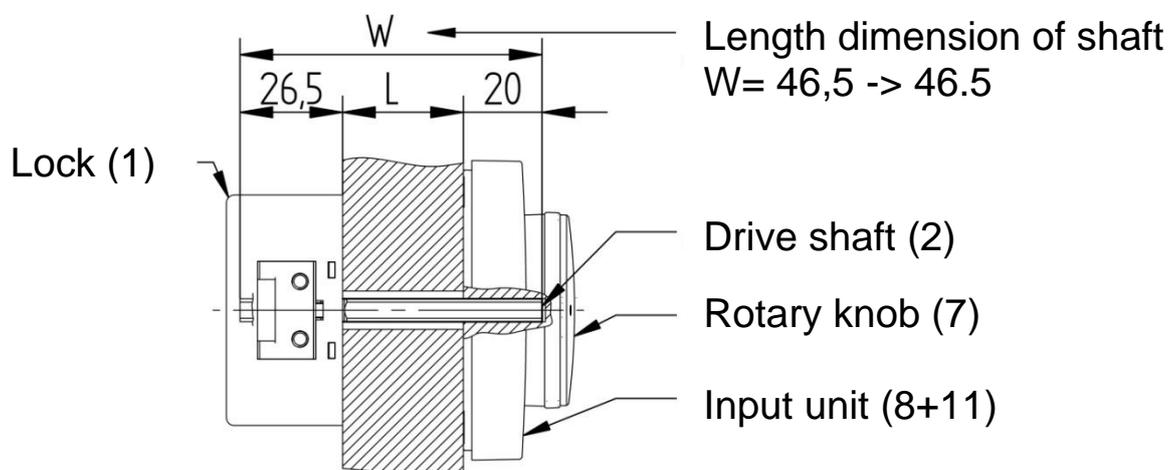

Figure 32: Required length of the drive shaft
In addition to that, another cutout is required in the cabinet door, used as cable passage for the connecting cable (12) between lock (1) and input unit (8 + 11). The size of the cable passage hole must not be more than 100 mm2 (e.g. a hole max. 11.25 in diameter), and the hole must be positioned within the area of Figures 32.
Depending on the door strength and the installation position, the drive shaft (2) included in the delivery must be adjusted to the required functional length, in order to guarantee proper functioning of the locking system. The required length dimension  $W$  is obtained from the distance  $L$  between the lock mounting plane and the input unit mounting plane + 20 mm immersion depth into the input unit + 26.5 mm immersion depth into the lock (tolerance +0/-2 mm, see Figure 32).